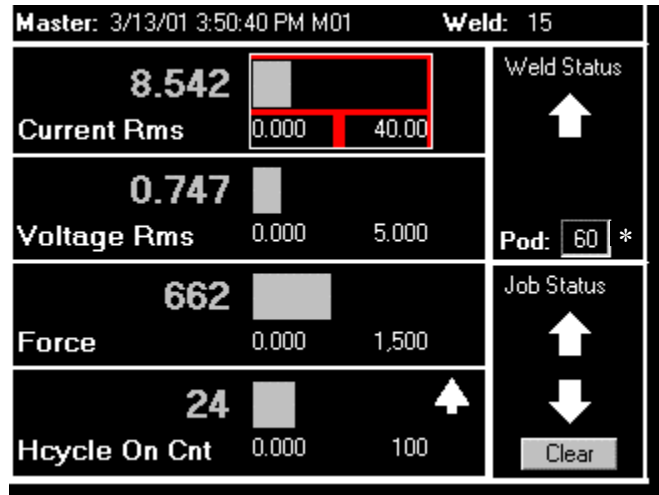

Figure 5-16 Main program screen showing REJECTED weld
3. Make a weld using the new weld schedule and observe the monitor screen. You should see a blinking arrow in the **Weld Status** box, as shown in figure 5-16. If one of your displayed parameters is **Hcycle On Cnt**, you'll also see a small blinking arrow next to the bar graph.